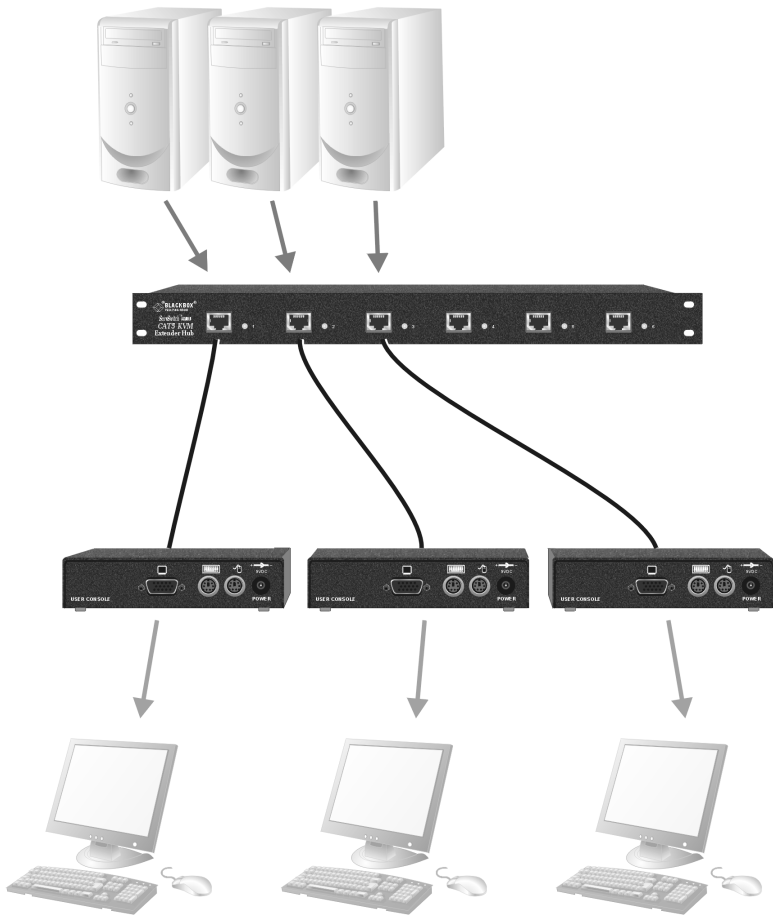

Figure 8
- Individually, connecting a single-head Remote unit to each port (see Figure 8)